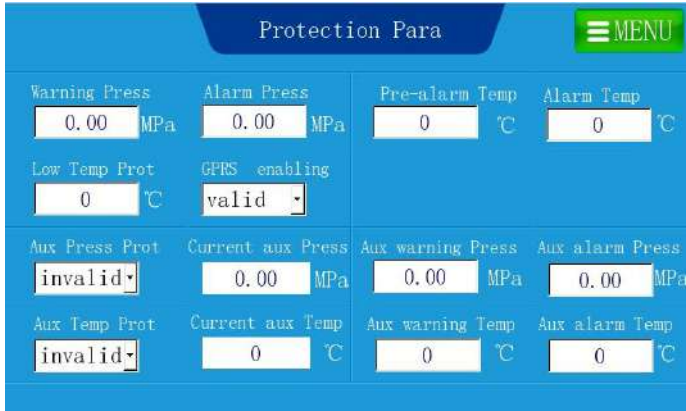

Figure 4-13 Protection parameter interface
8. Choose **Protection Para** in the menu. The page shown in Figure 4-13 is displayed.